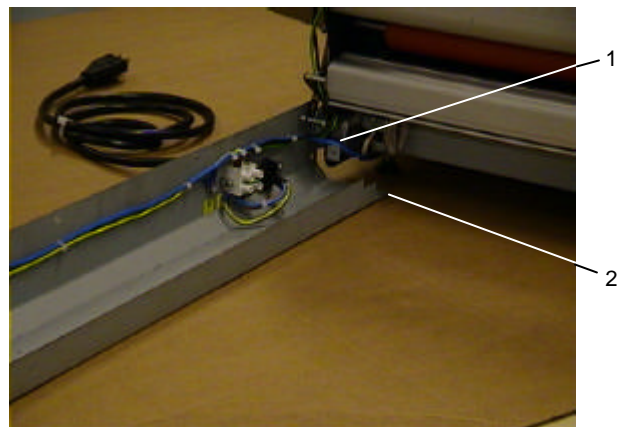

fig. 23
4. When the wires are clear from the bushing, swing the rear panel a quarter turn away from the machine. Take care not to damage the wires (1) going to the motor. See figure 23.
7. When mounting the rear panel, make sure that the two slots (2), on either side in the panel, grab the two bent parts at the underside of the framesheets.